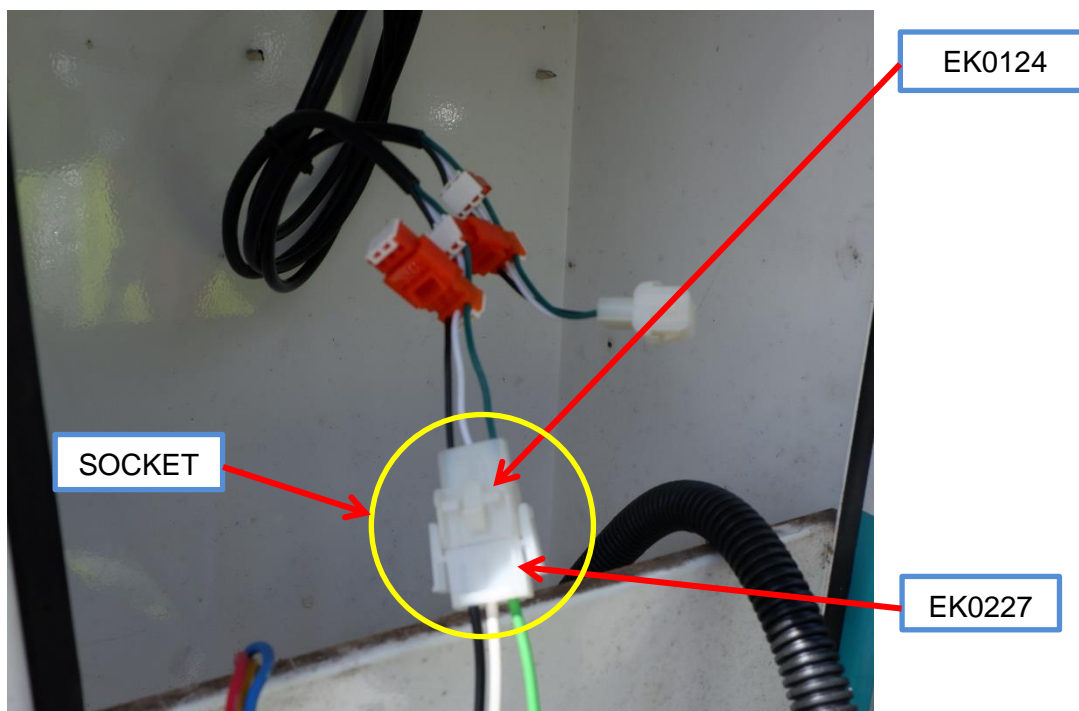

Fig 3 – Joint the 3-point connector terminal.
6. Connect EK0124 cable with EK0227 by plug in the male and female connector socket together. (Fig 3).